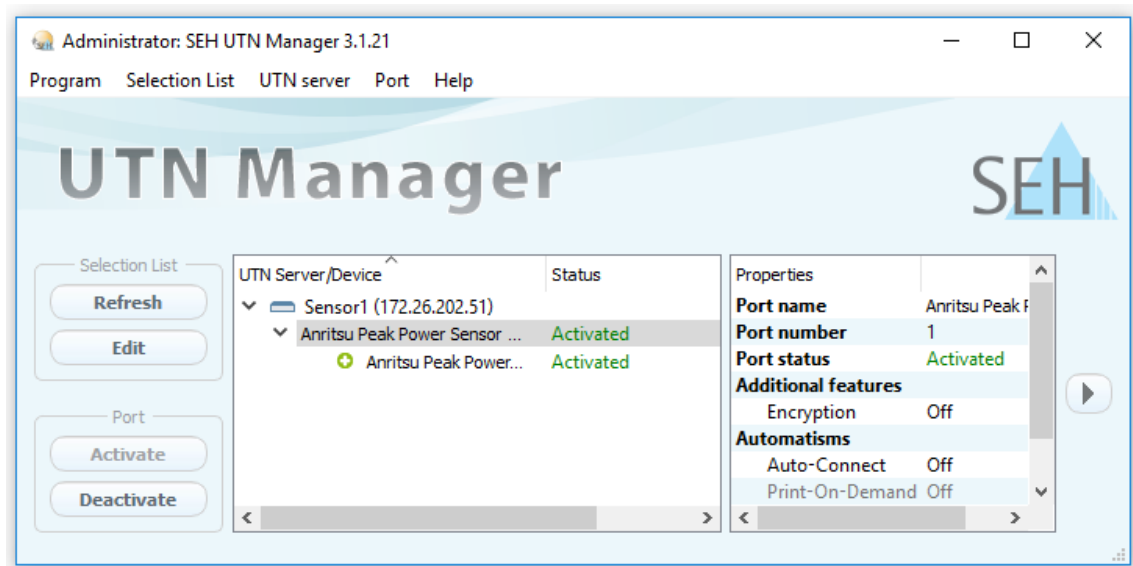

Figure 4. Peak Power Sensor Activated
- Highlight the "Anritsu Peak Power Sensor" in the UTN Manager, then click on the Activate button. A successful activation is shown in Figure 4, with the status in green typeface and the activation button greyed out.